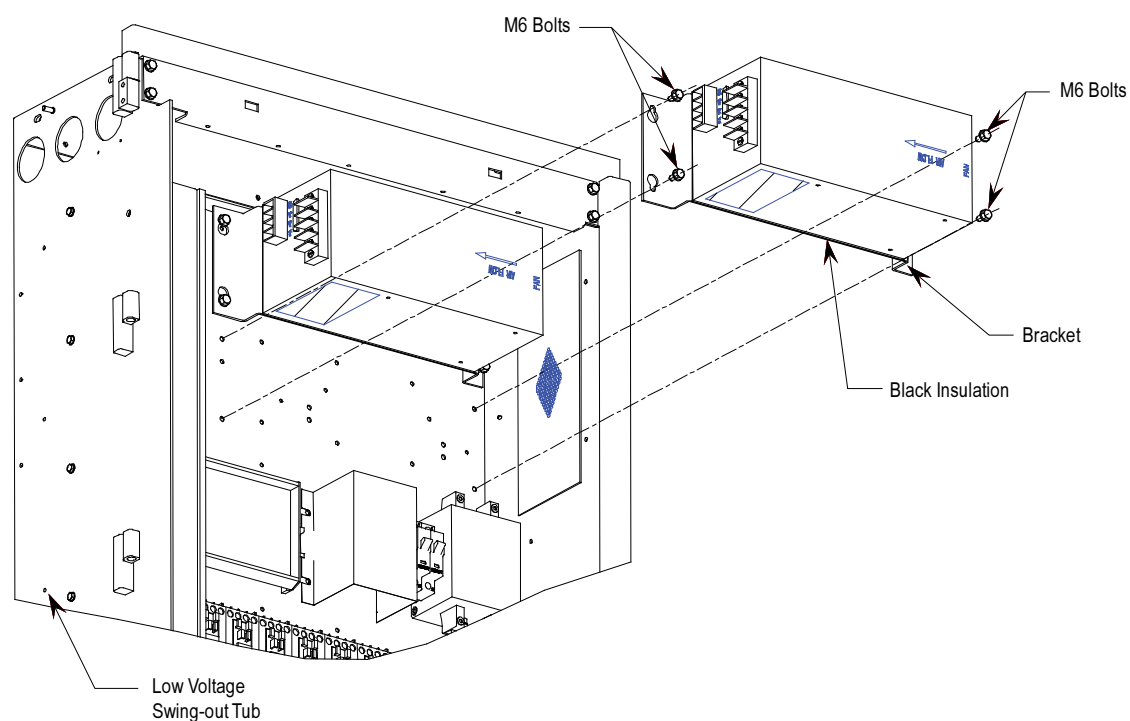

Figure 5.52 – Replacement of Pioneer AC/DC Power Supply on Low Voltage Panel
3. Remove the four M6 bolts per Figure 5.52 or 5.53.
7. Repeat Steps 5, 4, 3, 2 and 1 in this order to replace the unit (see Figure 5.52 or 5.53).